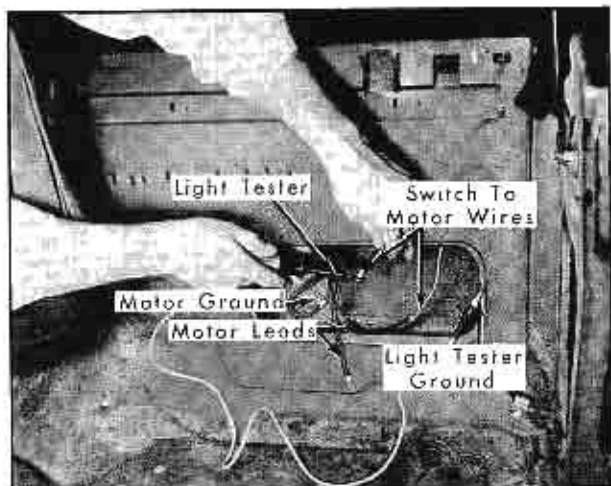

Fig. 3-99 Checking Folding Top Control Switch
2. Connect a light tester to the green-white tracer, switch to motor wire terminal, Fig. 3-99.